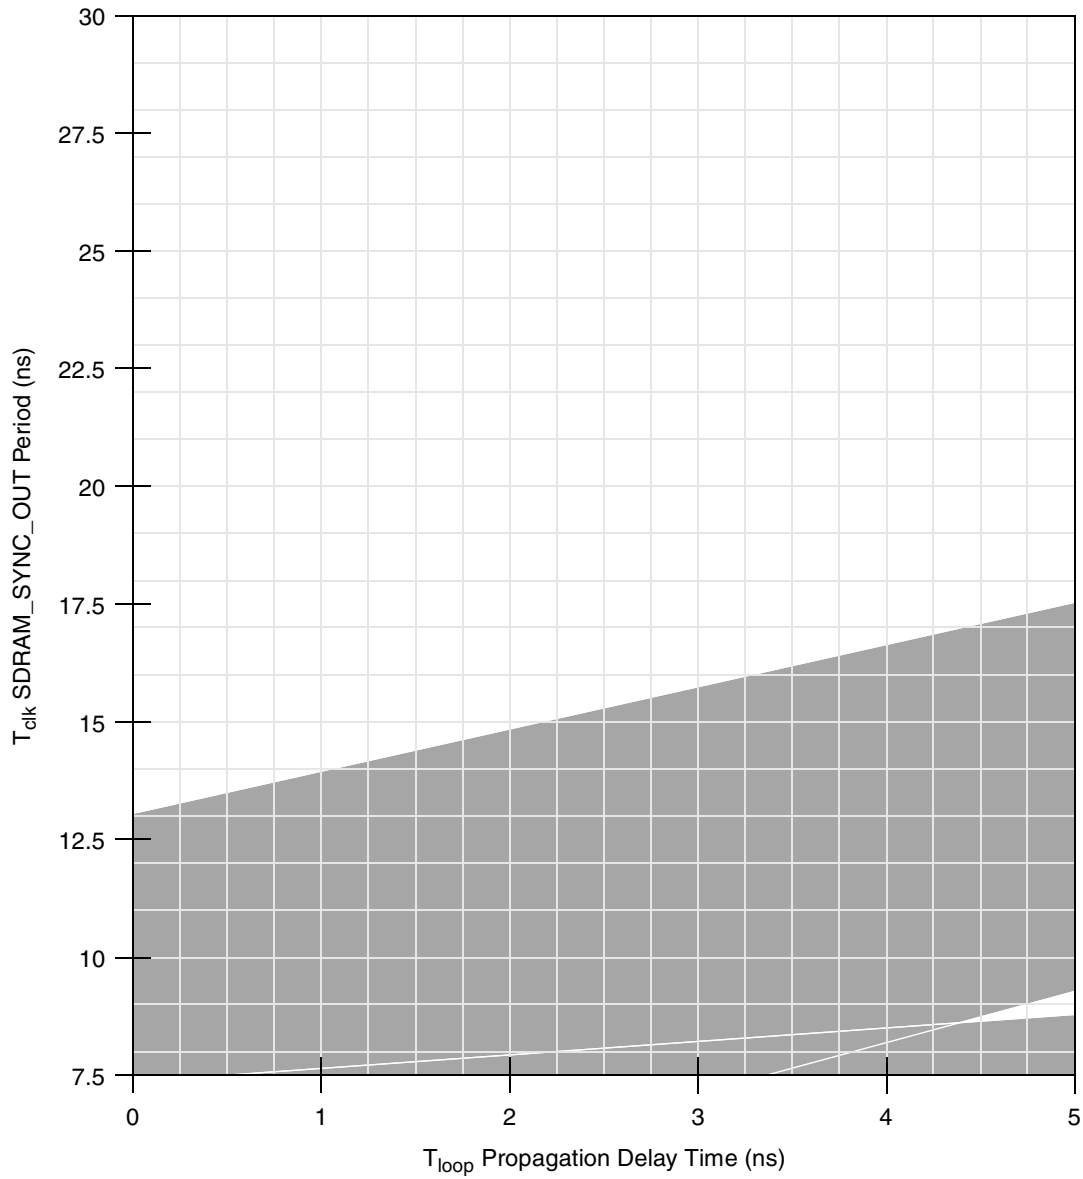
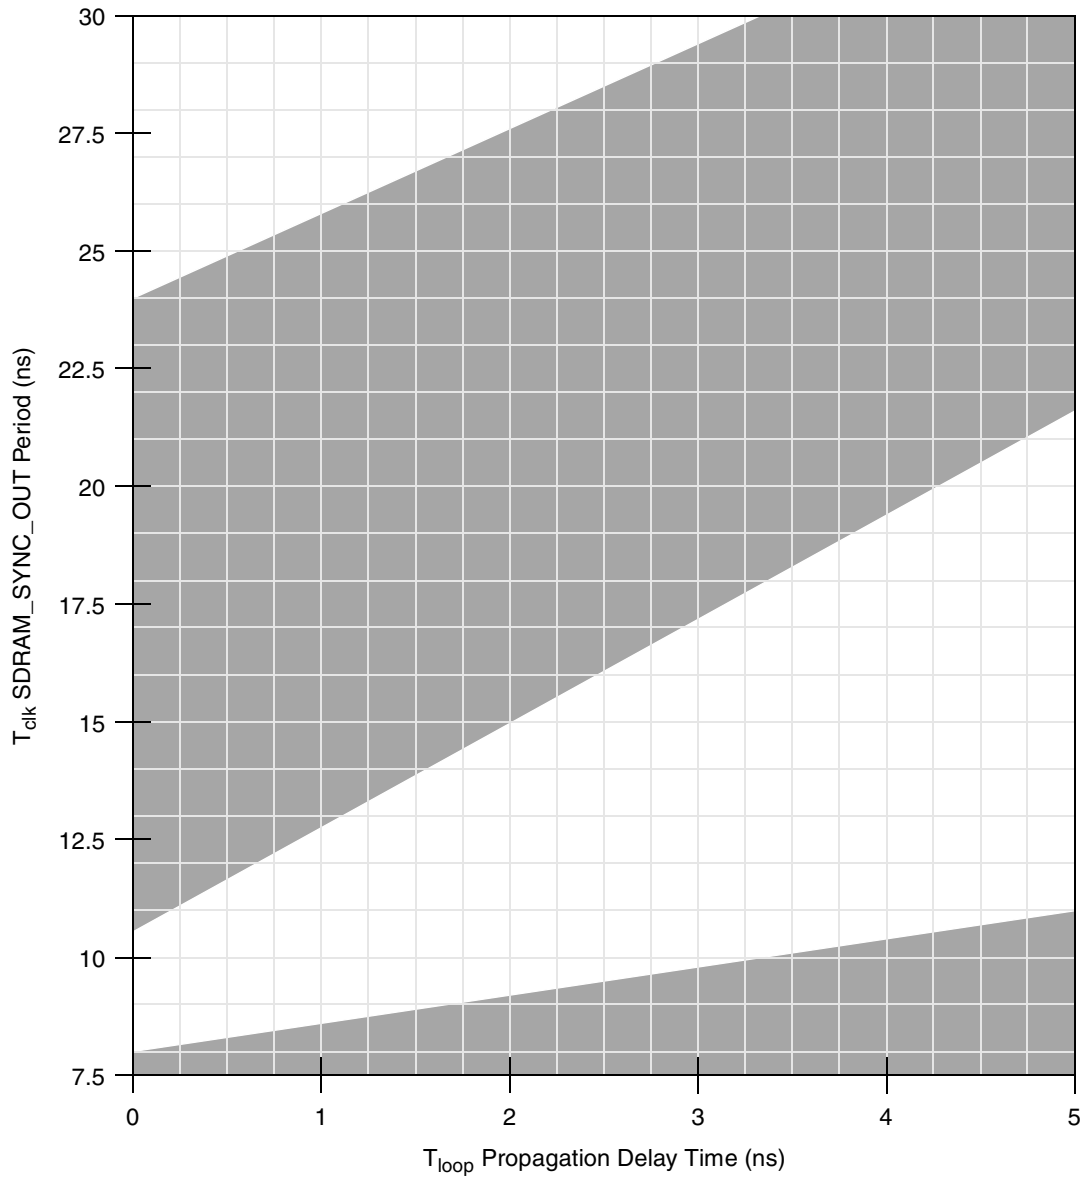
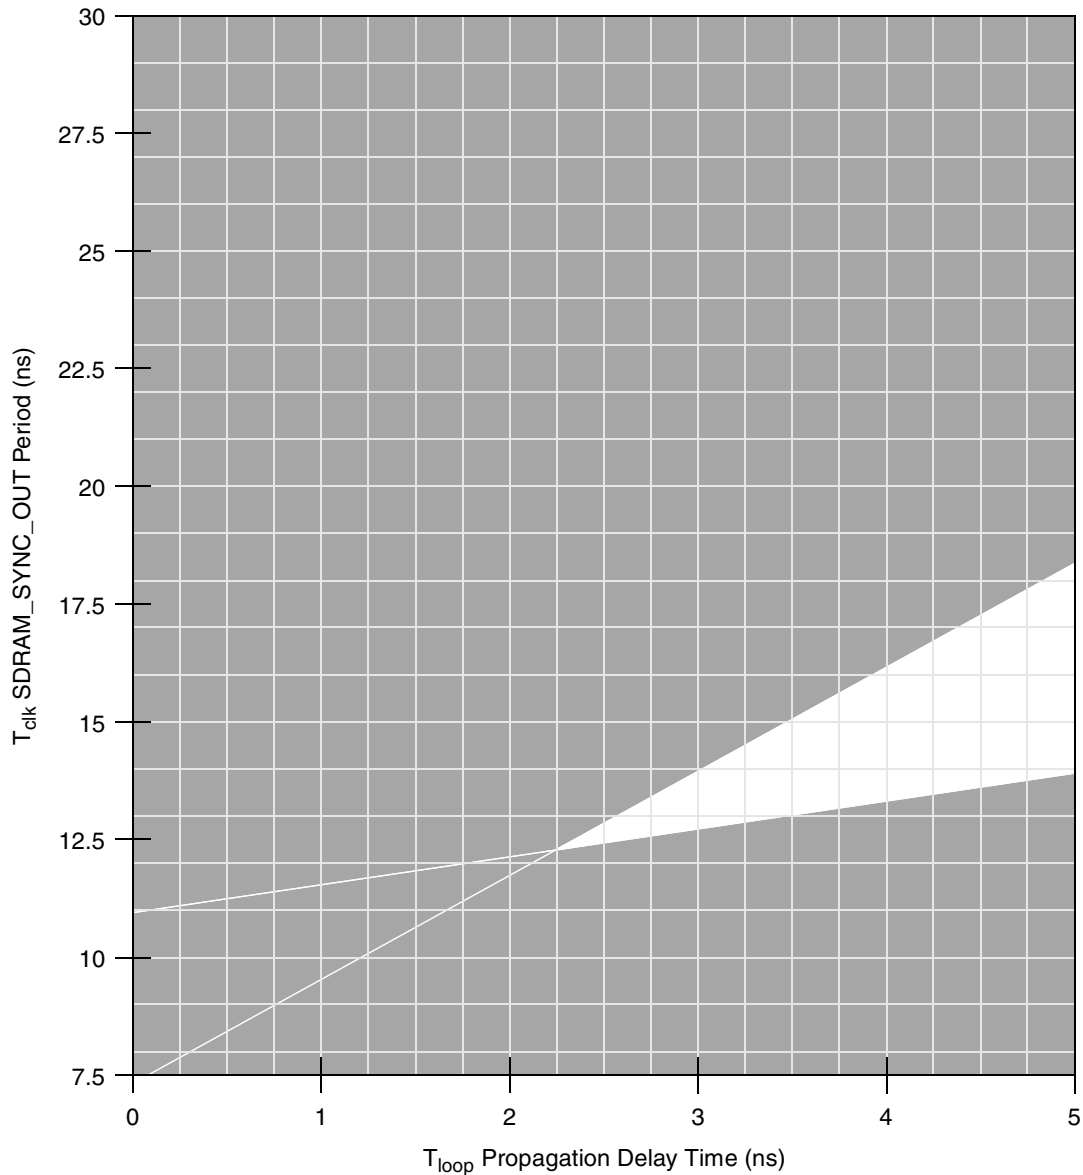

Figure 7. DLL Locking Range Loop Delay versus Frequency of Operation for DLL_Extend=0 and Normal Tap Delay
Figure 8. DLL Locking Range Loop Delay versus Frequency of Operation for DLL_Extend=1 and Normal Tap Delay
Figure 10. DLL Locking Range Loop Delay versus Frequency of Operation for DLL_Extend=1 and Max Tap Delay
| 15 | DLL lock range with DLL_EXTEND = 0 (disabled) and normal tap delay; (default DLL mode) | See Figure 7 | | ns | 6 |
| 16 | DLL lock range for other modes | See Figure 8 through Figure 10 | | ns | 6 |
- DLL_EXTEND is bit 7 of the PMC2 register <72>. N is a non-zero integer (see Figure 7 through Figure 10). T_{clk} is the period of one SDRAM_SYNC_OUT clock cycle in ns. T_{loop} is the propagation delay of the DLL synchronization feedback loop (PC board runner) from SDRAM_SYNC_OUT to SDRAM_SYNC_IN in ns; 6.25 inches of loop length (unloaded PC board runner) corresponds to approximately 1 ns of delay. For details about how Figure 7 through Figure 10 may be used, refer to the Freescale application note AN2164, *MPC8245/MPC8241 Memory Clock Design Guidelines*, for details on MPC8241 memory clock design.
Figure 6 shows the PCI_SYNC_IN input clock timing diagram, and Figure 7 through Figure 10 show the DLL locking range loop delay versus frequency of operation.